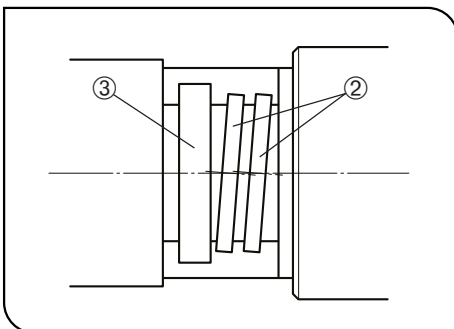

Fig. 22
First remove the stage center plate and then place a required filter while confirming the filter grooves ② and ③. (Fig. 22)